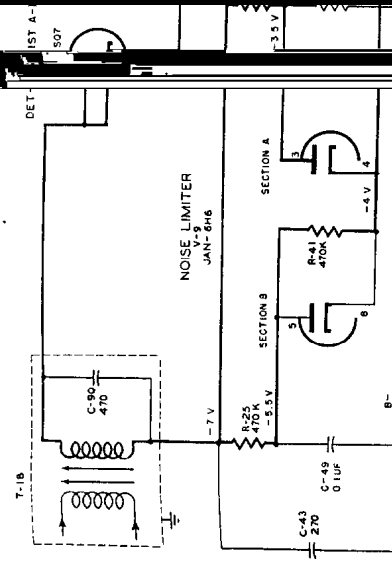

Figure 25. Noise limiter, simplified circuit diagram.
56. Noise Limiter (figs. 25 and 26)
a. GENERAL. The noise limiter (V-9) is of the diode type and is designed to suppress the type of noise interference which is picked up by the antenna and amplified through the receiver up to the detector. A.N.L. switch SW-7, shown in figure 25, is a noise limiter twin diode either into the output of the circuit. With this switch in the A position, the audio output from the detector load resistors, R-26 and R-40, is applied through the audio coupling capacitor C-51 across A. F. GAIN control R-26 to the grid of the first audio amplifier (pin 2) of the triode audio section of tube V-9. When the switch is in the B position, the audio output from the detector load resistors, R-26 and R-40, is applied through the audio coupling capacitor C-51 across A. F. GAIN control R-26 to the grid of the first audio amplifier (pin 2) of the triode audio section of tube V-9. When the switch is in the B position, the audio output from the detector load resistors, R-26 and R-40, is applied through the audio coupling capacitor C-51 across A. F. GAIN control R-26 to the grid of the first audio amplifier (pin 2) of the triode audio section of tube V-9.
position, the audio signal must travel through section A of tube V-9 (pins 3 and 4) to reach capacitor C-51 and the gain control. This diode acts as an automatic switch; opening on short, strong noise pulses to prevent the noise from reaching the first audio amplifier stage. Resistor R-27 (fig. 40) is the cathode resistor of the triode audio section of tube V-8, and C-44 is the cathode bypass capacitor; these parts are not shown in the simplified circuit of figures 25 and 26 because they are not important to the function of the noise limiter circuit.
(1) Figure 25 shows the noise limiter in operation when there is a normal signal present but no noise. Rectification of the i-f signal in the detector (V-9) causes a direct current to flow through load resistors R-26 and R-40. Note that the series-parallel combination of resistors R-25 and R-41 and diode section A of tube V-9 is in parallel with load resistor R-26. Current flows through resistor R-26 in the proper direction to make the cathode of diode section A more negative than the plate; hence, this diode will conduct and there will be a small current flow through resistor R-25. Since diode section A conducts, the audio signal developed across detector load resistor
section A of tube V-9 (pins 3 and 4) to reach capacitor C-51 and the gain control. This diode acts as an automatic switch; opening on short, strong noise pulses to prevent the noise from reaching the first audio amplifier stage. Resistor R-27 (fig. 40) is the cathode resistor of the triode audio section of tube V-8, and C-44 is the cathode bypass capacitor; these parts are not shown in the simplified circuit of figures 25 and 26 because they are not important to the function of the noise limiter circuit.